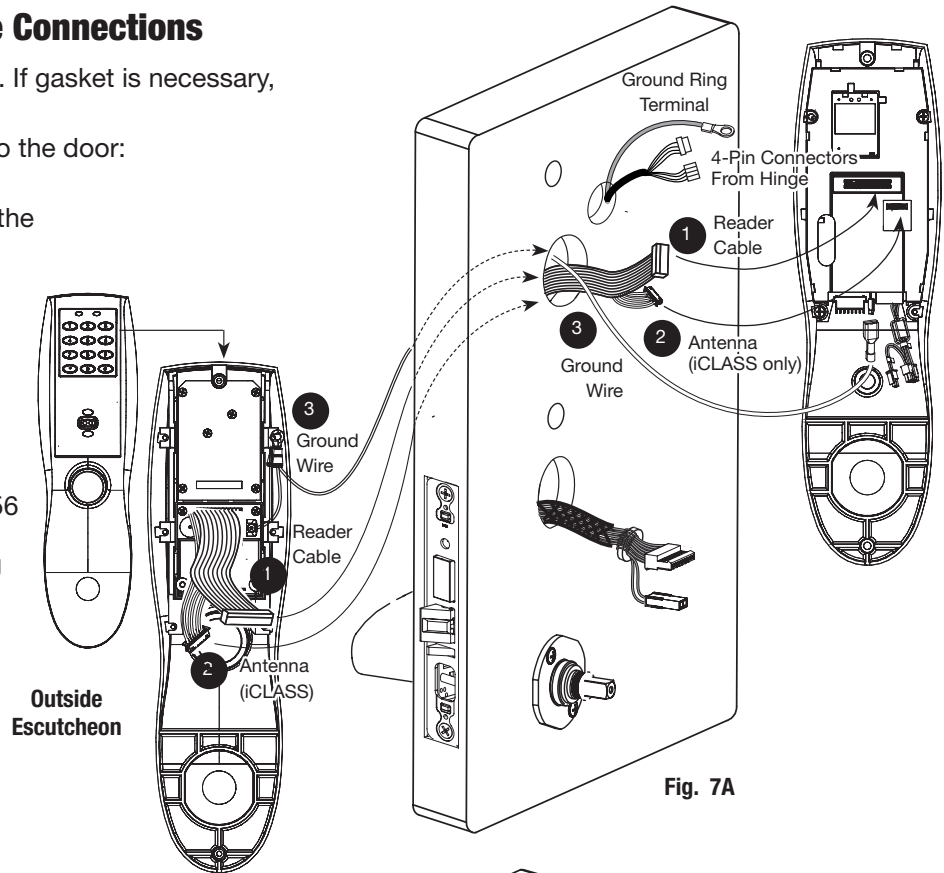

Fig. 7A
3. Attach the ground wire to the bottom of the controller assembly (E1, Fig. 7A).